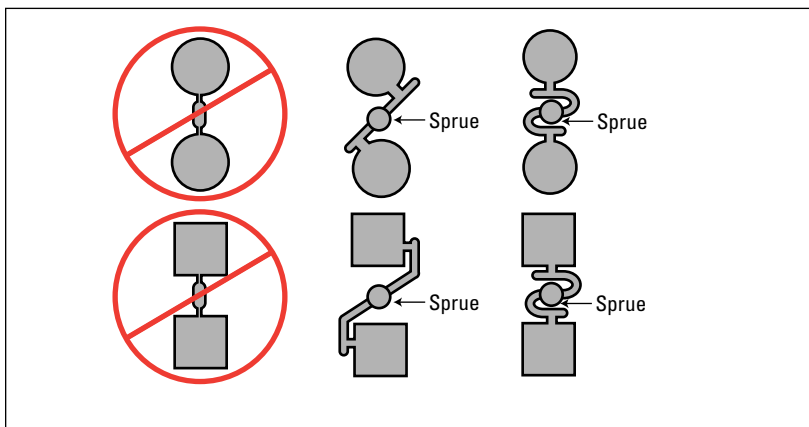

Figure 1-10. Runner to Gate (Indirect Approach).
- To minimize jetting, splay and gate blush, the gates should be located at right angles to the runner (Figure 1-10).